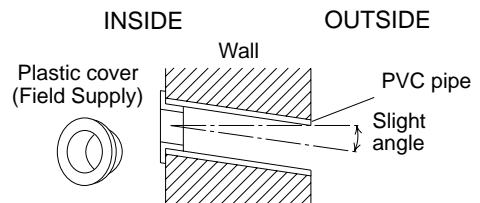

Fig. 10
- (6) Place the plastic cover over the end of the pipe (for indoor side only) and insert in the wall. (Fig. 10)